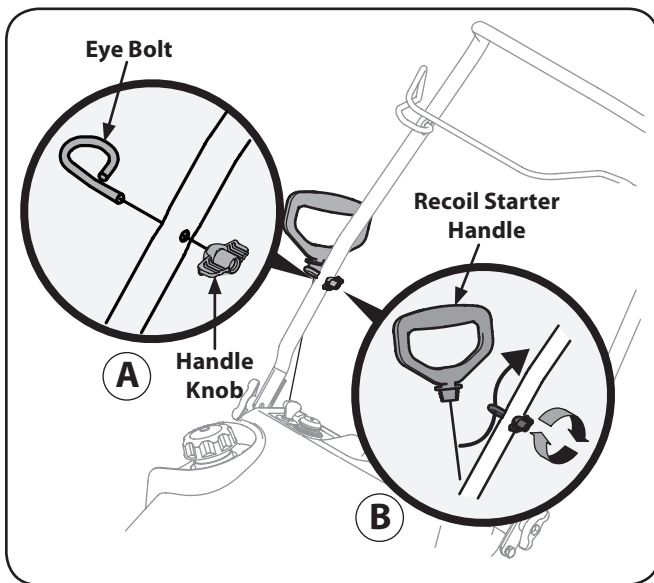

**Figure 3-4**
2. Align the holes in the chute base with the holes in the lower chute and secure with the previously removed hex washer screws. See Figure 3-4.